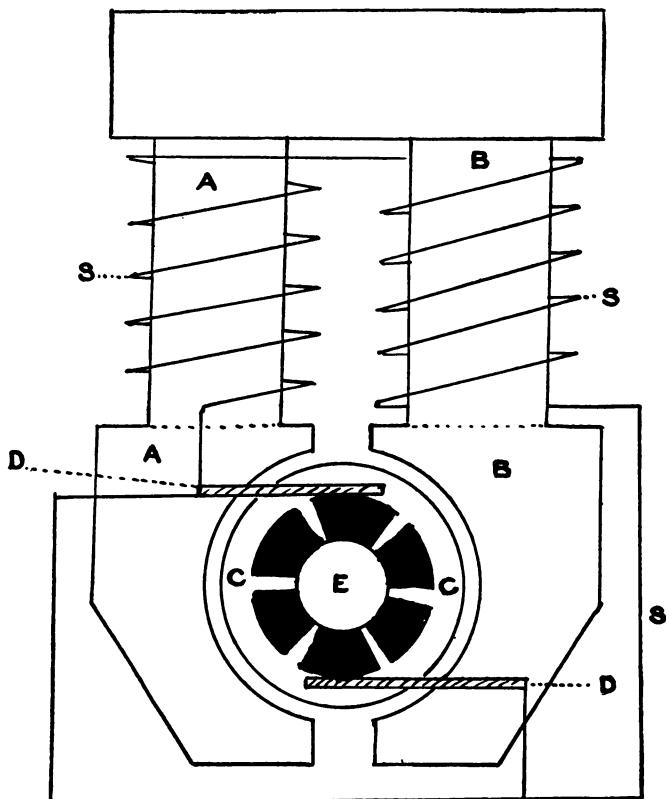

Fig. 5
A simple dynamo is shown diagrammatically in Fig. 5. In this drawing the electromagnets (A, B) are pieces of iron which are magnetized by means of a small current known as a *shunt* (S), made to pass around them as shown.